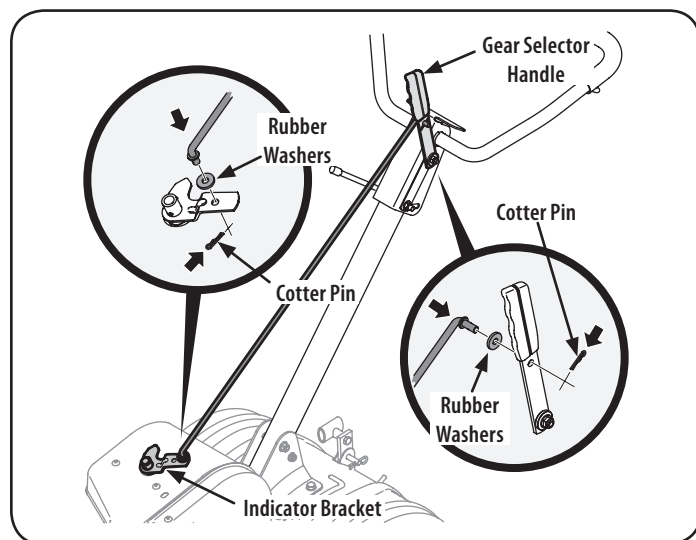

Figure 5
4. Insert the longer end of the control rod through the hole in the gear selector handle and secure with a cotter pin. See Figure 5.